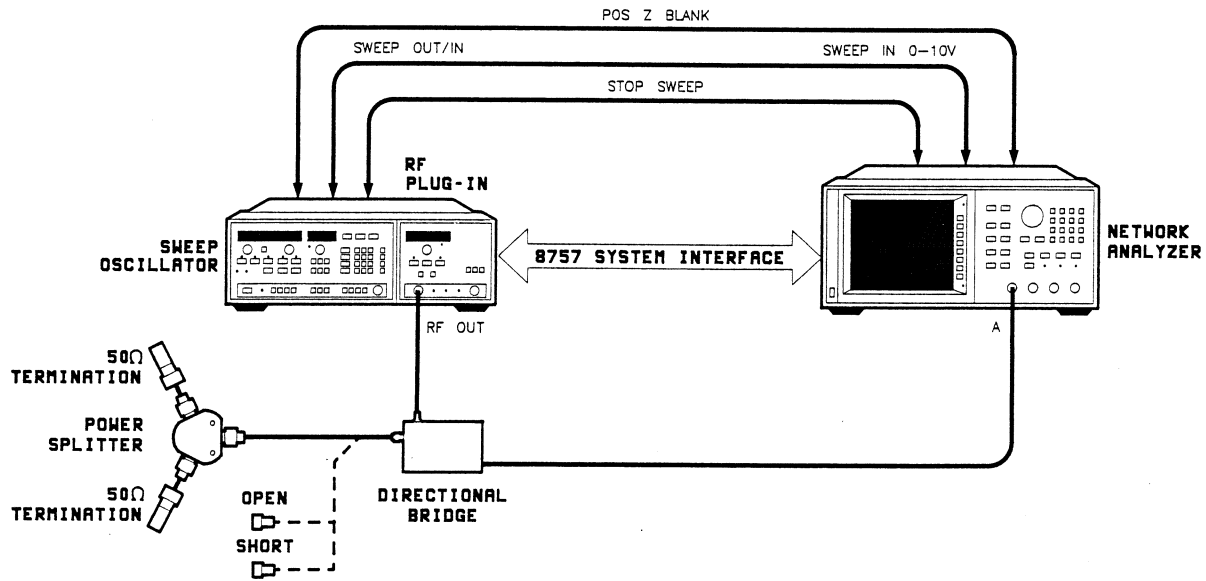

Figure 4-1. Input Return Loss Test Setup 0.01 to 40 GHz
1. Connect the equipment as shown in Figure 4-1, with no connection to the bridge test port. Allow 30 minutes warm-up.